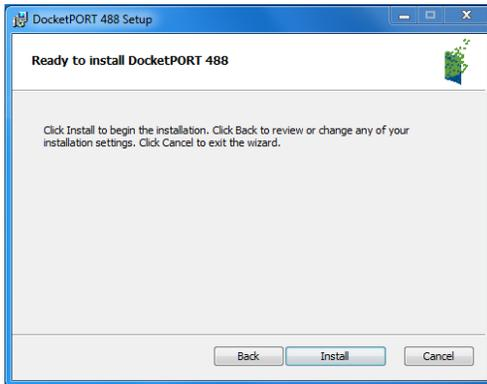

Fig. 5
- g) Click **“Install”** to begin the installation (Fig. 5).